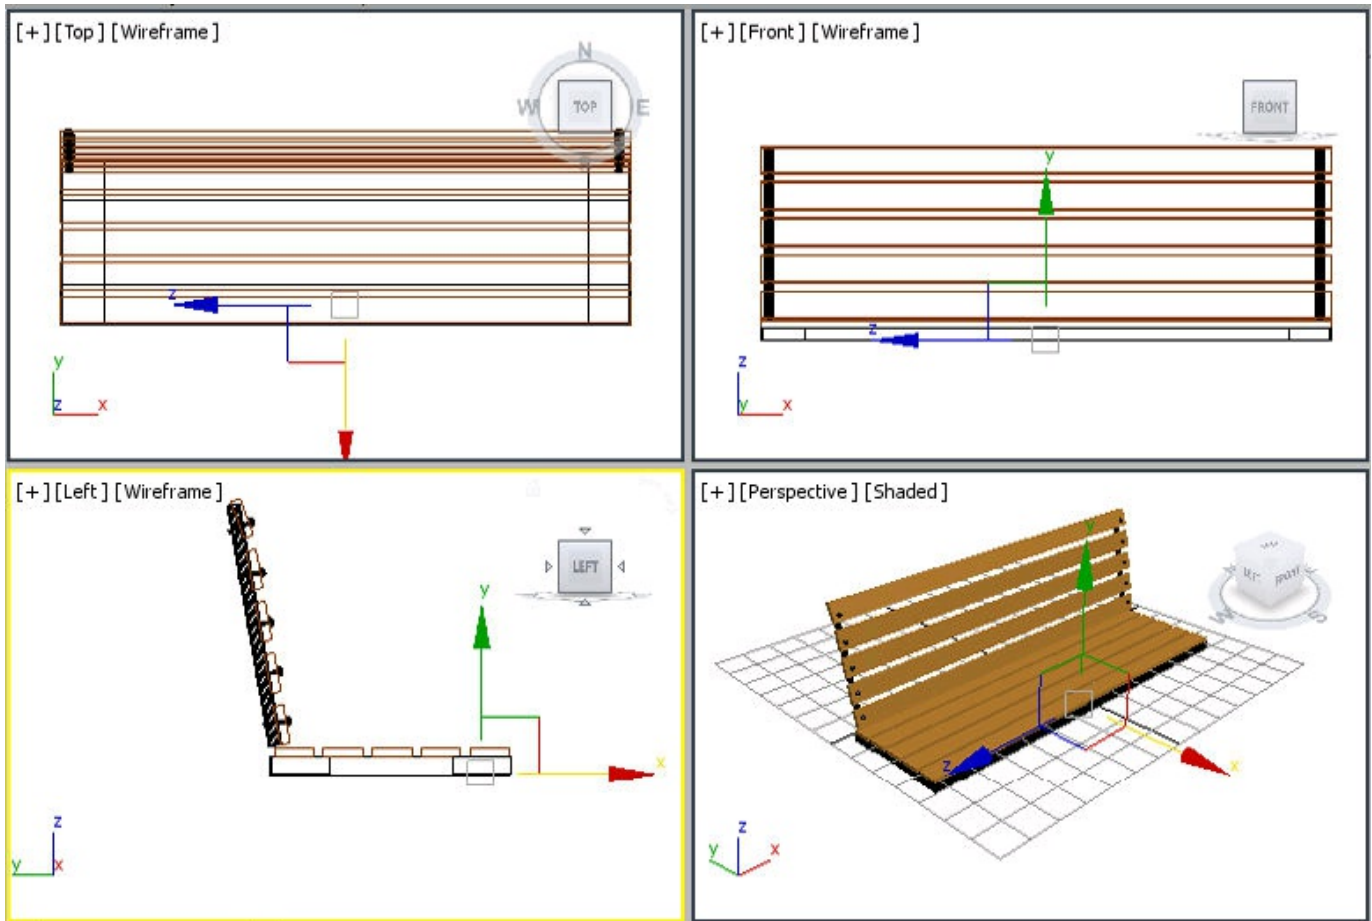

Figure 2-89 Alignment of leg support004 in viewports
12. Choose the **Select and Move** tool and align *leg support004* with *horizontal seat support* in all the viewports, refer to Figure 2-89.